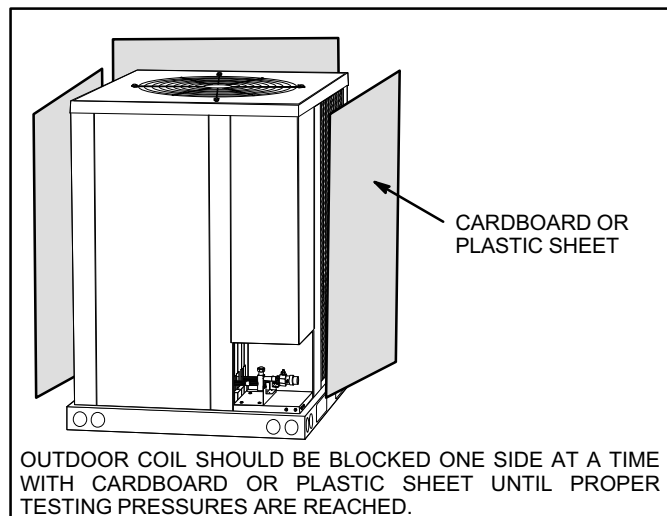

Figure 11. Blocking Outdoor Coil
- When the outdoor ambient temperature is below 65F (18C) it may be necessary to restrict the air flow through the outdoor coil to achieve liquid pressures in the 325-375 psig (2240-2585 kPa) range. These higher pressures are necessary for checking the charge. Block equal sections of the outdoor coil on all coil sides until the liquid pressure is in the 325-375 psig range (figure 11).